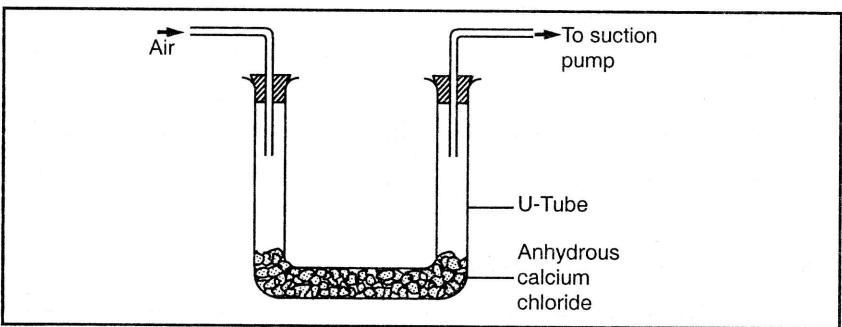

Fig. 4.6: Anhydrous calcium chloride set-up for demonstration of presence of water vapour in air
- (b) Pack the bottom of a U-tube with anhydrous calcium chloride as shown in figure 4.6. Pass air through the U-tube by means of a suction pump. Record your observations.